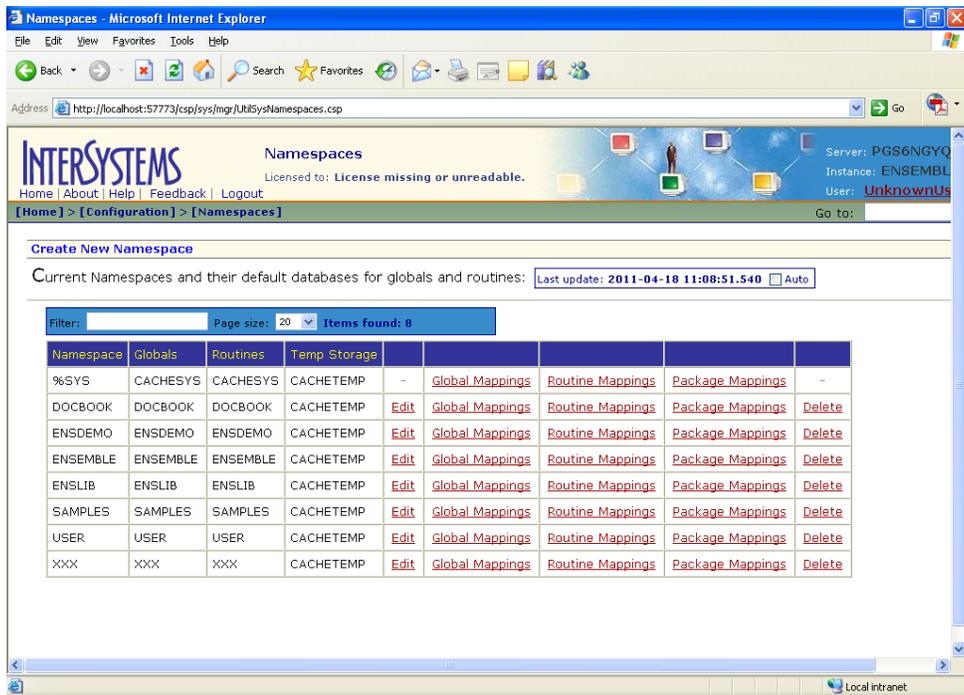

Figure 4-4: Namespaces page
- In the **System Configuration** area, click **Namespaces** to open the **Namespaces** page, as shown in Figure 4-4.